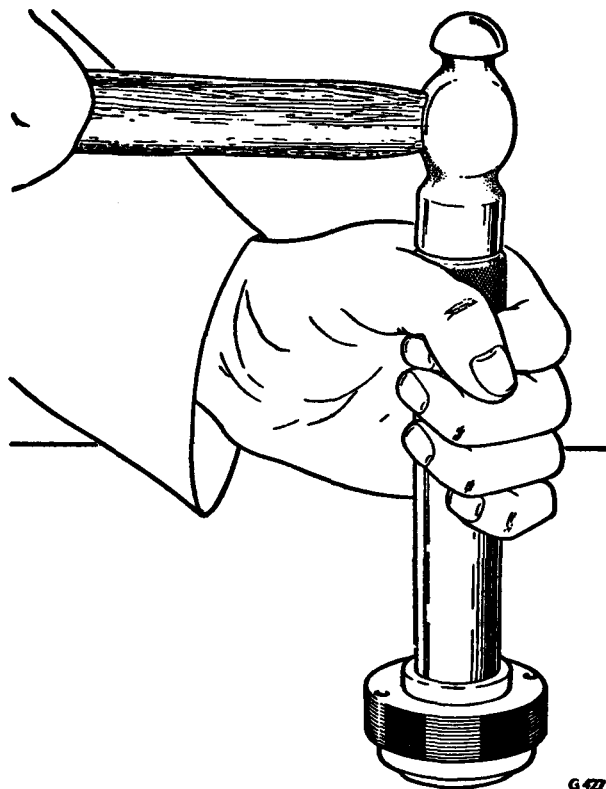

FIG. N32 INSTALLING OIL SEAL
3. Lubricate the new stub shaft fluid seal with the approved power steering fluid and, using adjuster plug seal insertion tool (RH 7780) (see Fig. N32) install the seal far enough to provide clearance for the dust seal and retaining ring.